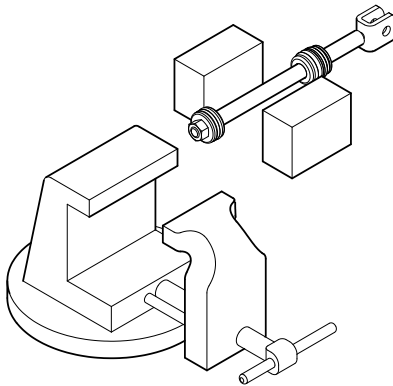

Figure 4-2, Cylinder Shaft
6. Clamp the rod assembly in a soft jawed vise on the wrench flats, **not on the rod surface**. If the rod does not have wrench flats use two pieces of wood on both sides of the rod to prevent scarring. (Figure 4-2)